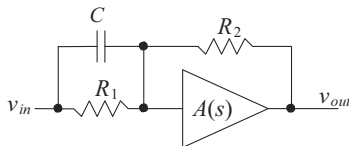

Figure 31.69 Amplifier used in problem 31.33.
31.33 Using the circuit shown in Fig. 31.69 and the *RR* method, find a value of R_1 and A_o which will cause the phase margin to equal 45° at $\omega = 8,000\text{ rad/sec}$. The amplifier can be modeled as having an infinite input impedance and zero output resistance and has a frequency response of